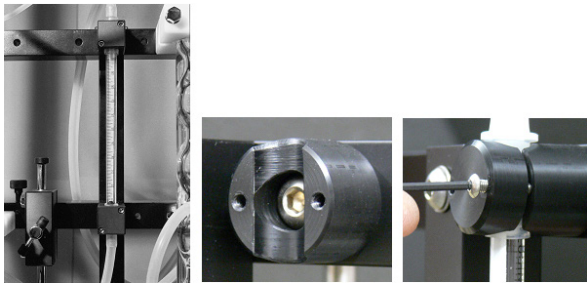

Fig. 22—Install the brackets for the flow meter.
- A. Locate the two brackets for the flow meter on the back of the frame rack (Fig. 22), between the upper and middle crossbars.